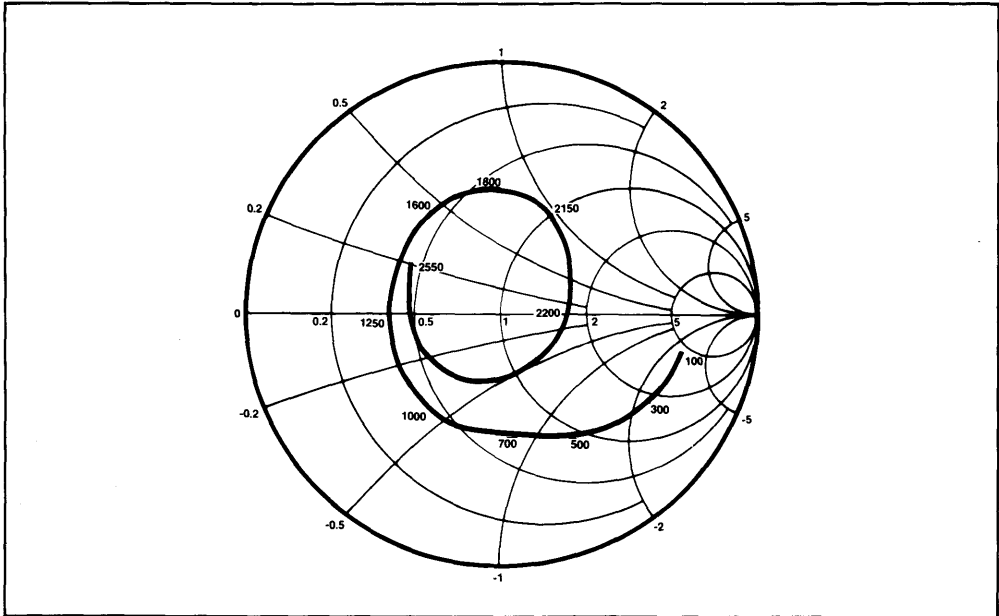

Fig.4 Typical input impedance. Test conditions: supply voltage -6.8V, ambient temperature 25°C. Frequencies in MHz, impedances normalised to 50 ohms.
1. The clock input (pin 4) should be capacitively coupled to the signal source. The input signal path is completed by connecting a capacitor from the internal bias decoupling pin (6) to ground.
4. The input impedance of the SP8712 is a function of frequency. See Fig.4.